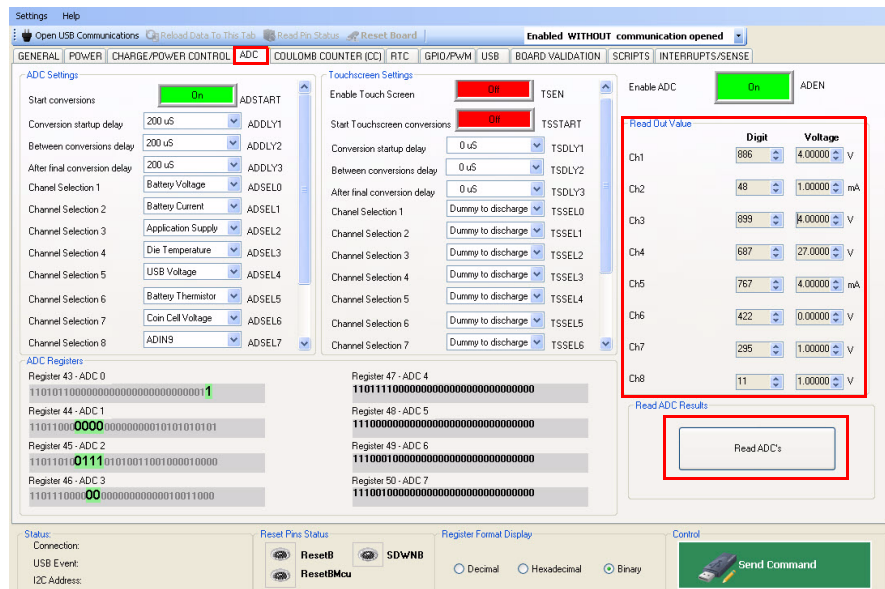

Figure 28. ADC Configuration Window
7. The results of each of the conversions can be read at the **ReadOut Value** fields by clicking the **Read ADCs** button (see Figure 28).